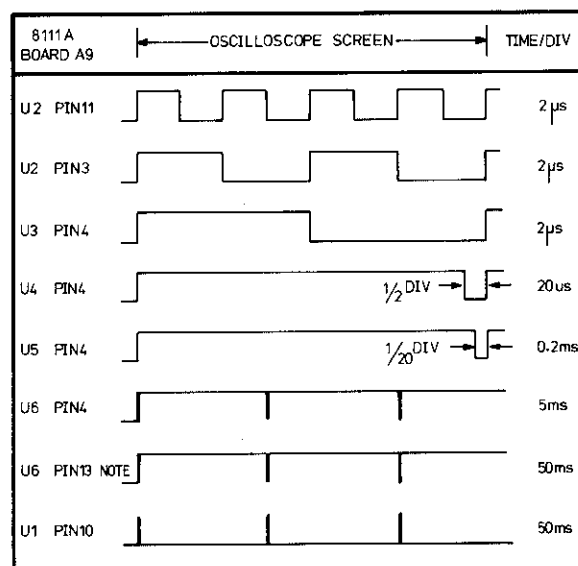

Figure 8-6-6. Burst No. Display Counter
3. Check that the waveform and timing data as given in Figure 8-6-6 is correct. Use oscilloscope internal trigger on positive slope setting.